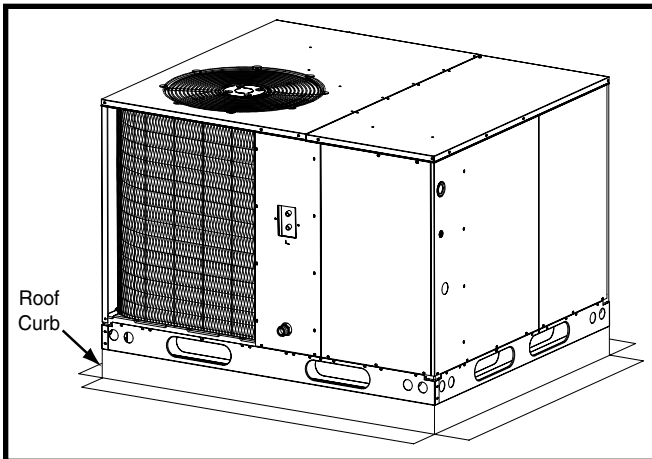

Figure 5. Roof Top Installation
- The appropriate accessory roof curb (Figure 5, page 13) must be installed prior to unit installation. The roof curb must be square and level to ensure proper condensate drainage. **Please follow all instructions provided with the kit.**